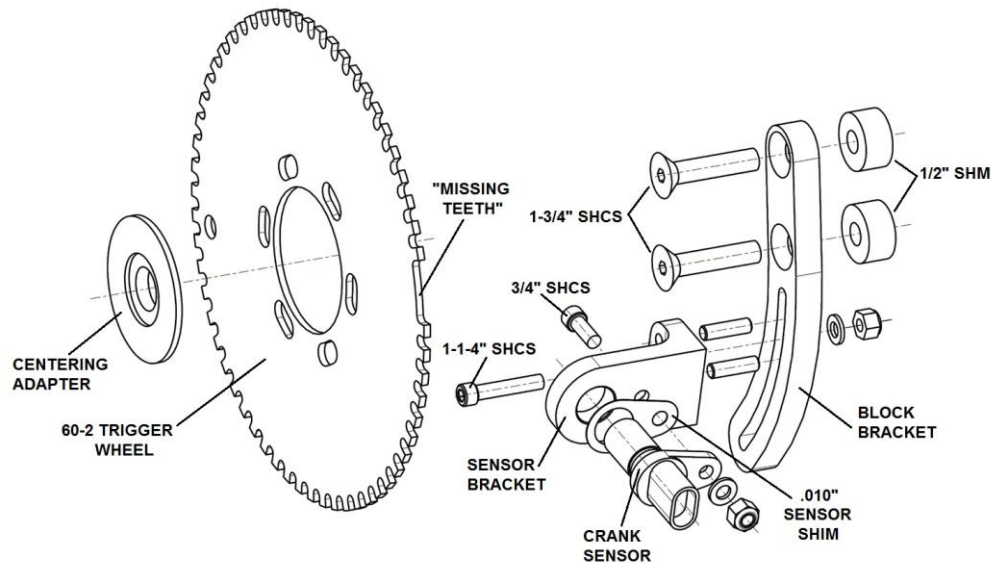

Figure 1
2. Using the 3/4" long socket head cap screw, washer and locknut, install the crank sensor to the sensor bracket using one .010" shim. Note the proper orientation of the sensor and sensor bracket in **Figure 1**.
3. Using the 1-1/4" long socket head cap screw, washer and lock-nut, install the sensor and bracket assembly to the block bracket as shown in **Figure 1**. The dowel pins will help align the sensor bracket. It is possible that the sensor will interfere with the trigger wheel. If it does, add more .010" shims as needed to obtain a .015"- .030" air gap.